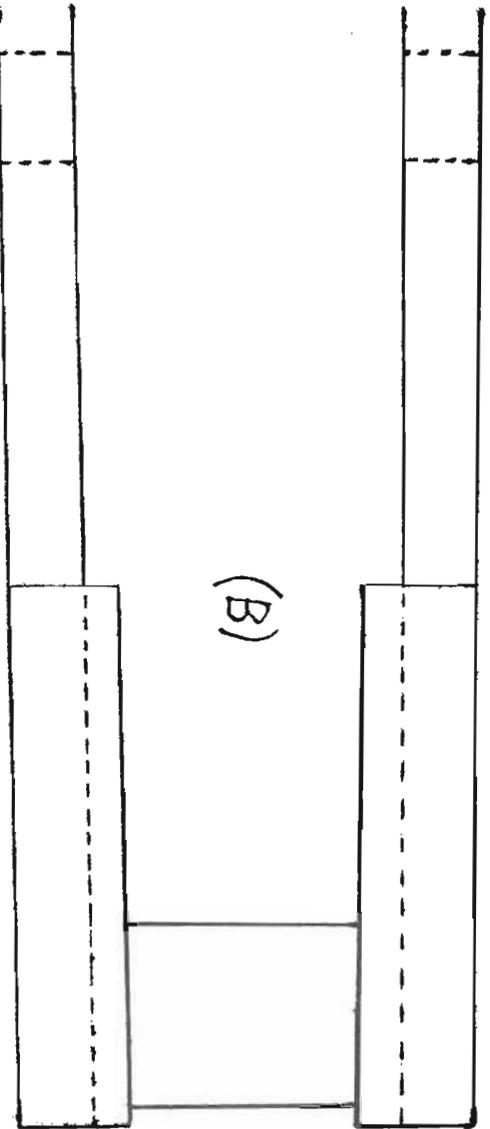
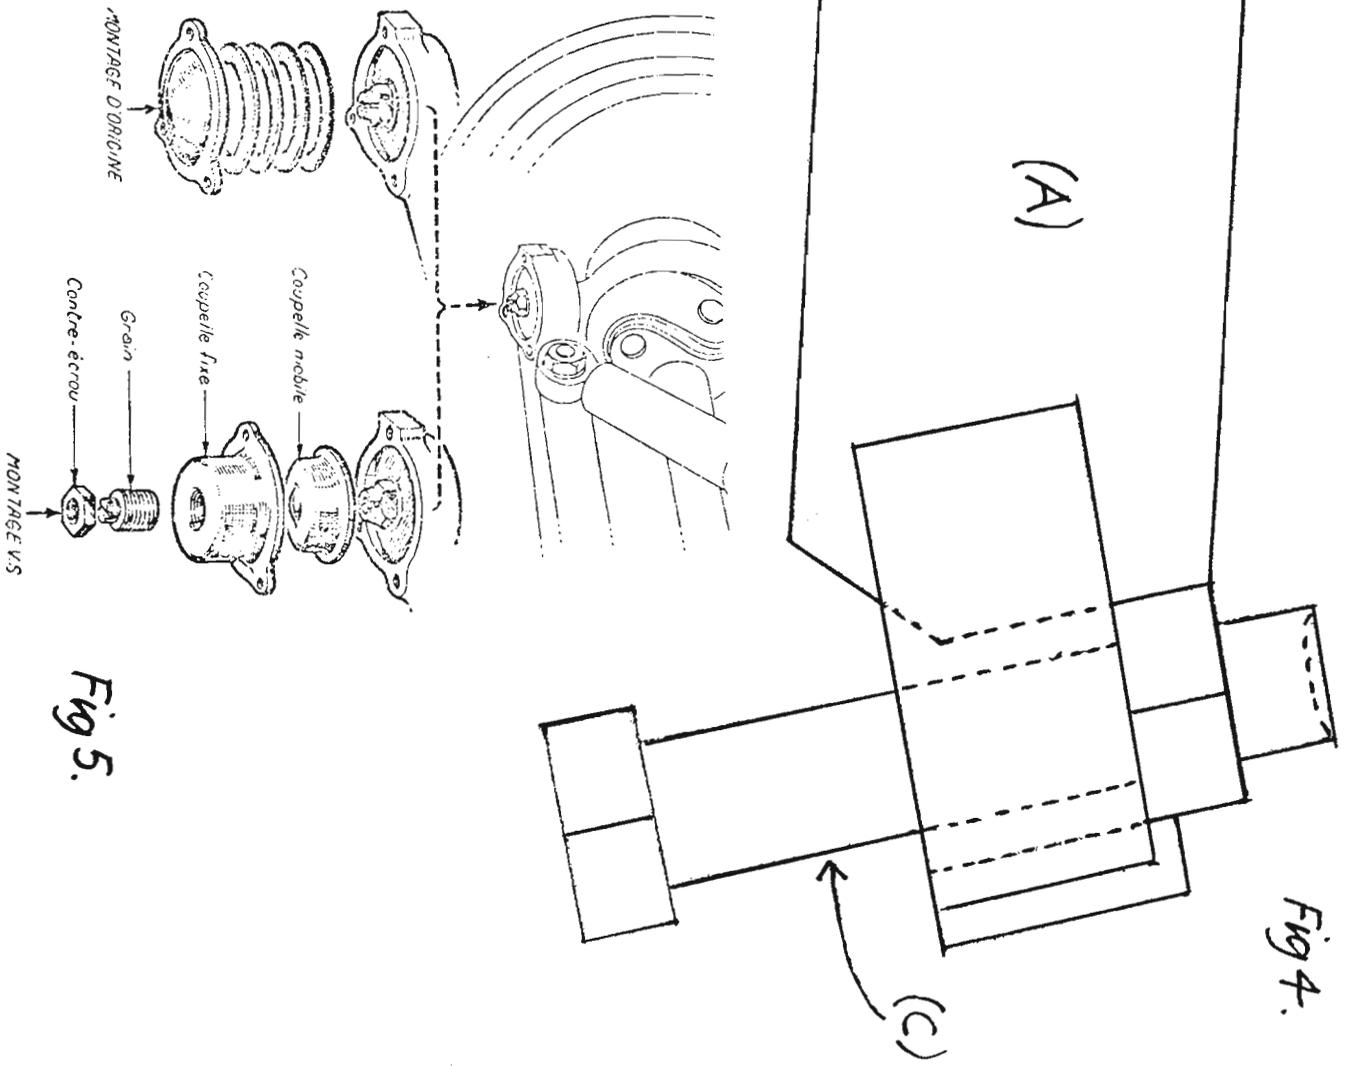

Fig. 4.
Fig. 5.
- Fig. 4 Shows alternative to 1851.T. made of mild steel, welded construction a) Boyd at least 8"-10" long b) securing arm drilled to take locking pin c) whit. bolt with continues thread, and must be concave. Fig. 5 Shows modification to original bottom plate which enables one to adjust for play without removing bottom plate and shimming. These kits may still be available on the continent although I have never seen them fitted to a car on this side of the channel.